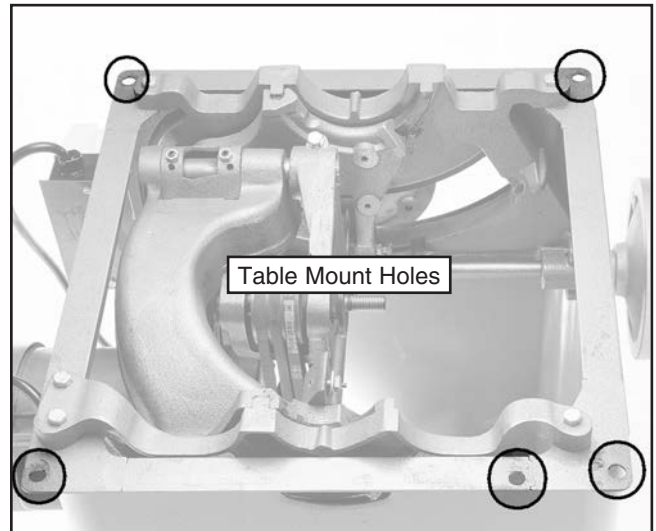

Figure 24. Table mounting bolt holes.
7. To adjust the table, loosen the four bolts in the table mounting locations (see **Figure 24**) and slightly tap the table. Repeat **Steps 1-5** until satisfactory. Do not forget to tighten the table mounting bolts when finished.